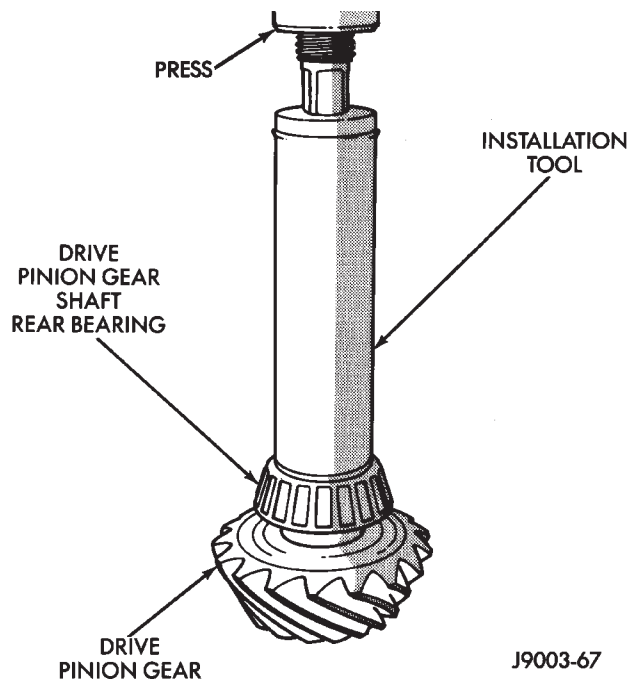

Fig. 33 Shaft Rear Bearing Installation
(4) Place the proper thickness depth shim on the pinion gear and install the rear bearing.
(5) Install the rear bearing (and slinger if used) on the pinion gear with Installer 6448 (Fig. 33).